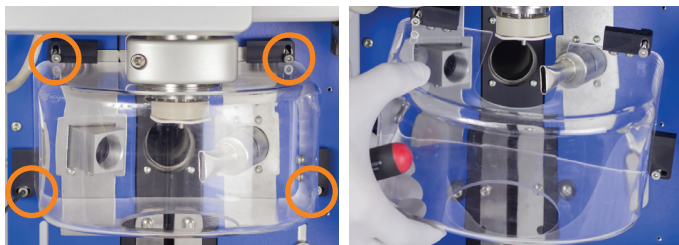

Figure 32. Remove the plastic guard by loosening the four mounting screws holding the guard in place.
1. Turn off (O) the system and disconnect the power cord.
2. Loosen the plastic guard's four mounting screws, using the T20 Torx screwdriver supplied with the system, and remove the guard by pulling it straight out. See Figure 32.